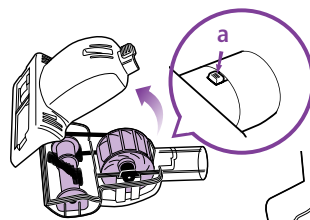

Fig. 28
- Slide the locking latch (a) forward and tilt the bottom cover upward to remove. (Fig. 28)